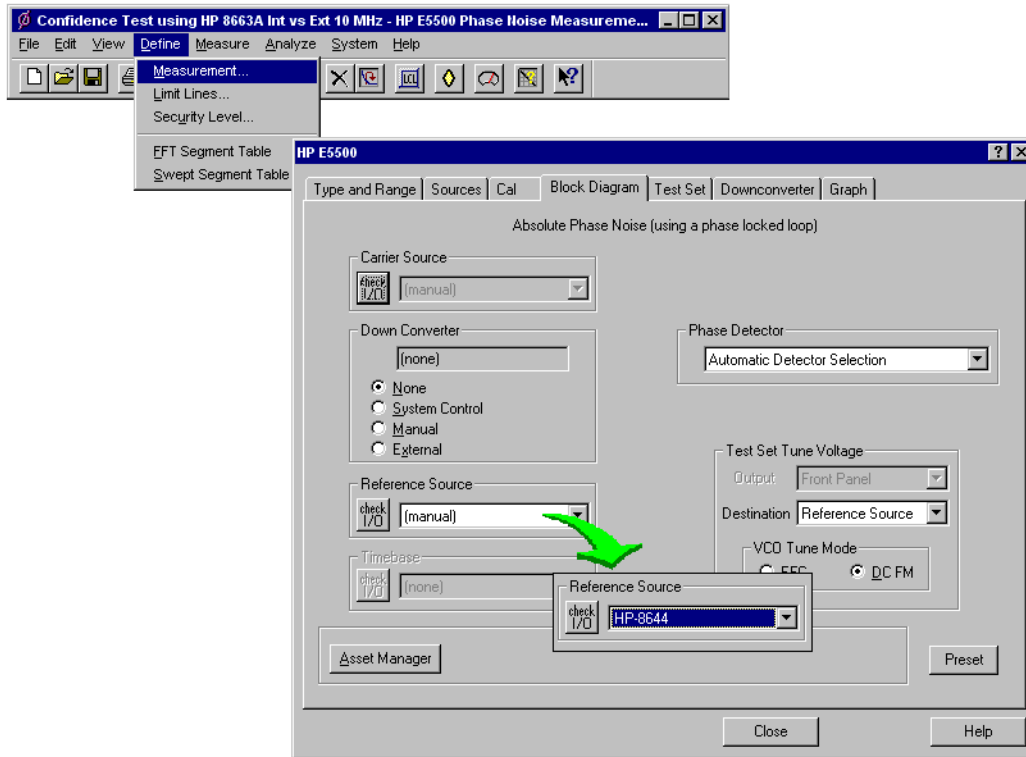

Figure 5-25 Selecting a Reference Source
- 1 From the **Define** menu, choose **Measurement**; then choose the **Block Diagram** tab from the **Define Measurement** window. See Figure 5-25.